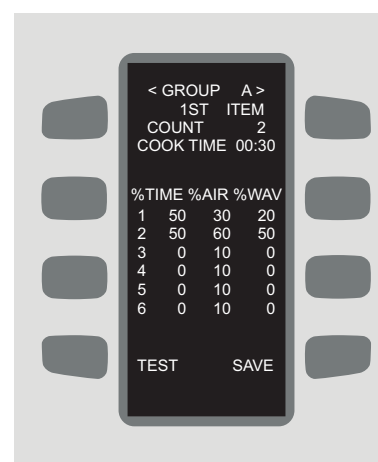

FIGURE 15: Edit Recipe Settings Screen
7. Adjust the following components of a food item (see Figure 15 - to navigate from field to field, press the UP or DOWN key):